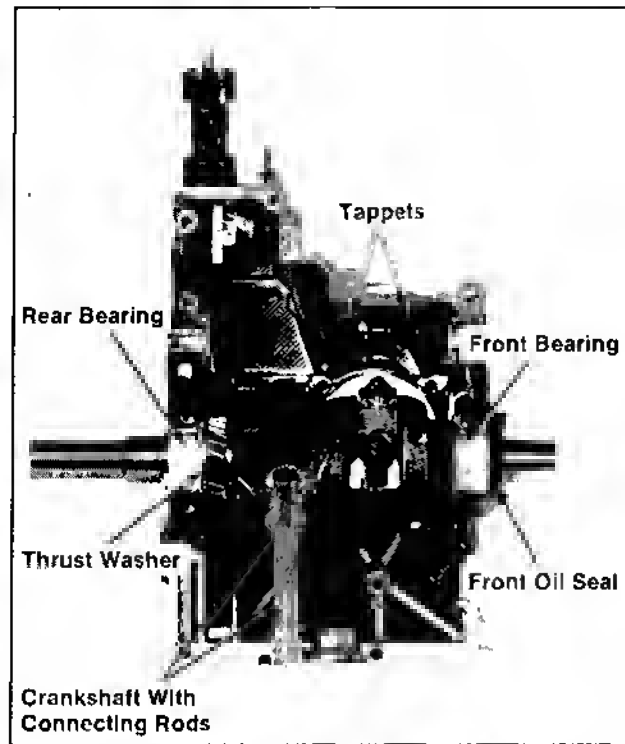

Figure 9-34. Removing Tappets, Crankshaft, Front Oil Seal, and Bearings.
2. With a marking pen or paint, mark the tappets according to crankcase side and as either intake or exhaust. Remove tappets from both crankcase sides. Refer to Figure 9-34.
1. Remove the crankshaft with connecting rods, bearings, and front oil seal from the #1 crankcase side. Refer to Figure 9-34.